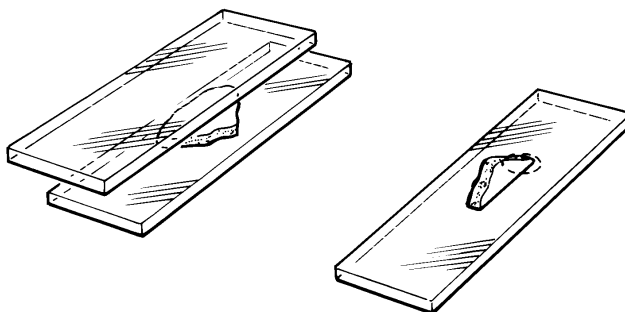

Figure 14 Cutting a Wedge-Shaped Sample
1. Place the sample between two offset glass slides. Allow a triangular portion of the sample to protrude as shown on the left in Figure 14.
3. To mount the sample, rotate it as shown on the right in Figure 14. Position it under the microscope so that the infrared beam goes through the thin end of the wedge (circled in Figure 14).